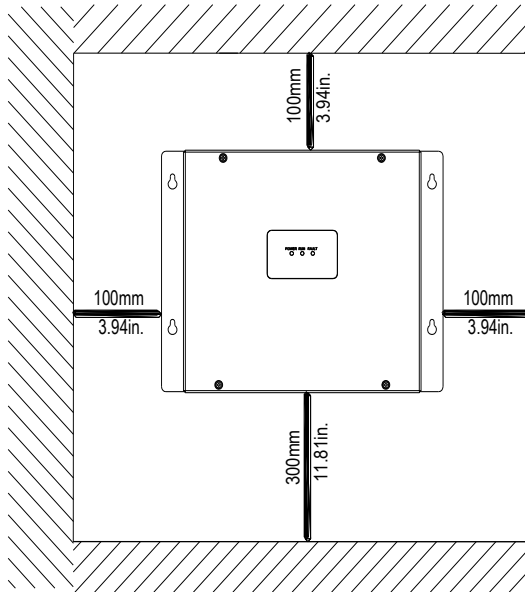

Figure 3-3 Inverter mounting dimensions
(3) Space required for the Energy Balancer mounting on the wall (as shown in Figure 3-3)